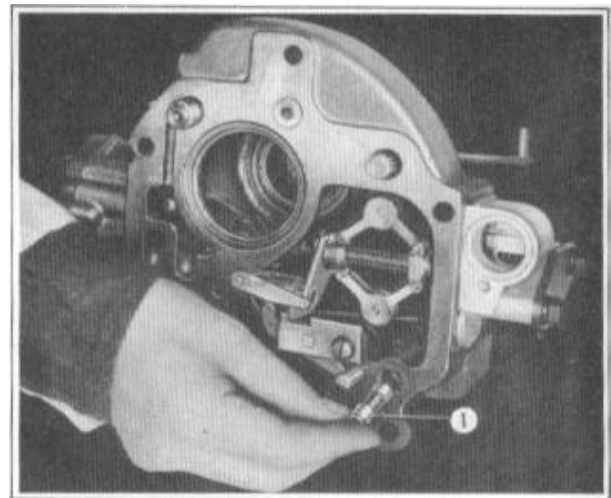

FIGURE 30
2. Install the governor control detent (1), Figure 30, into the case with the tapered end first.